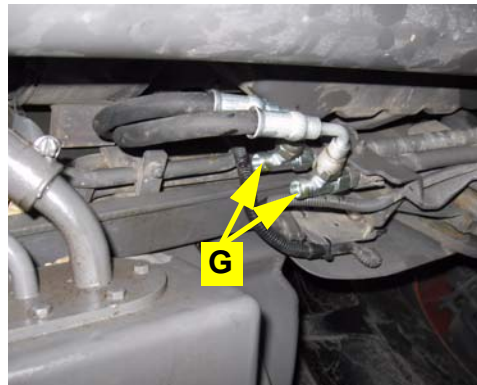

Figure 3c: Installed steering fittings
- c. Attach run-tee fittings **G** to the rubber steering hoses under the machine frame (Figure 3c).